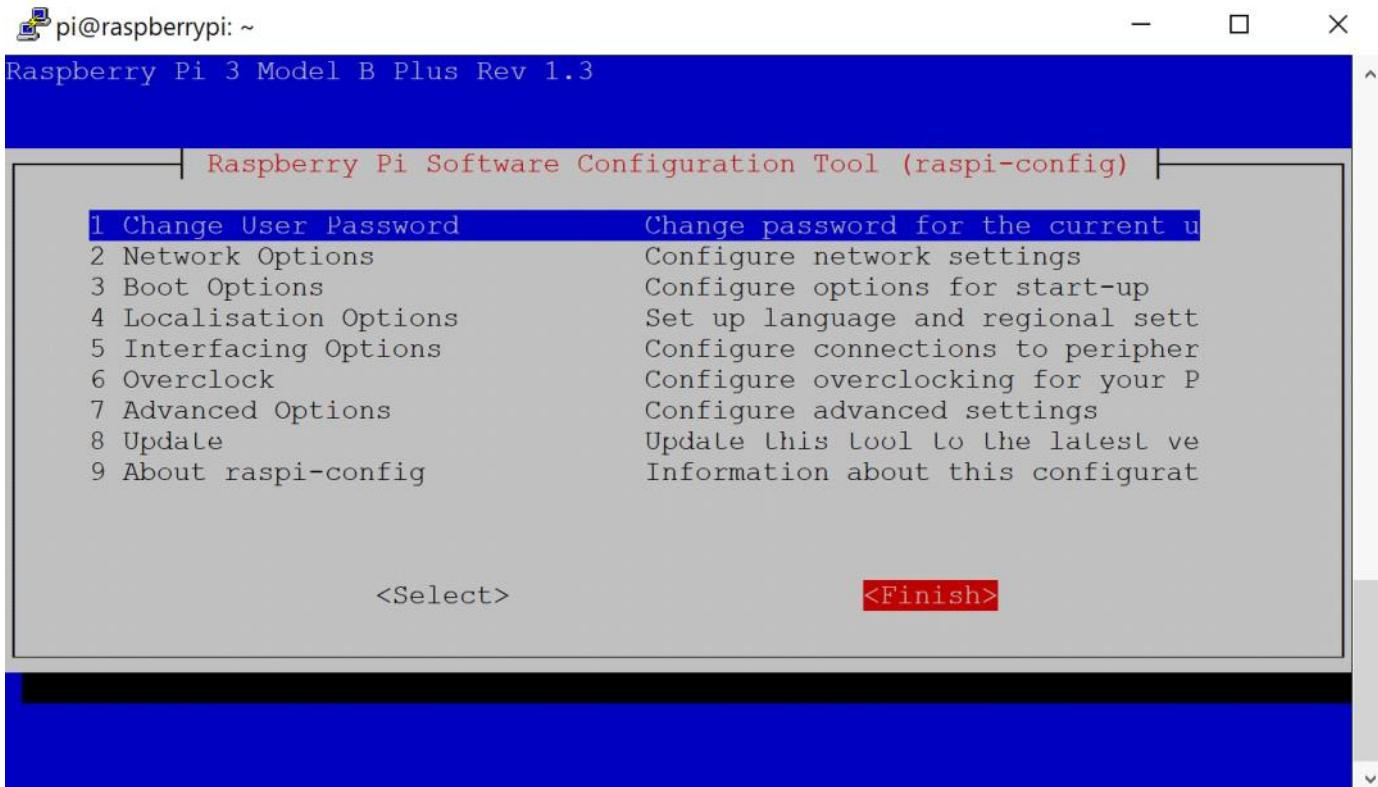

Figure 4.9 – Select Finish
1. Use the *Tab* button to get to the **Finish** item (Figure 4.9) and press *Enter*.